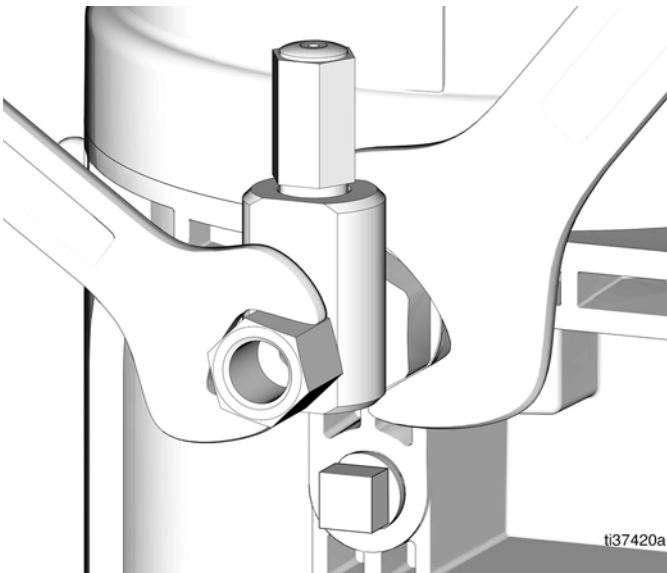

FIG. 19
1. Loosen the pump element fitting (FIG. 19).